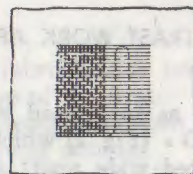

Fig. 52
- Turn fabric at a right angle and repeat operation until hole is fully darned (Fig. 52).